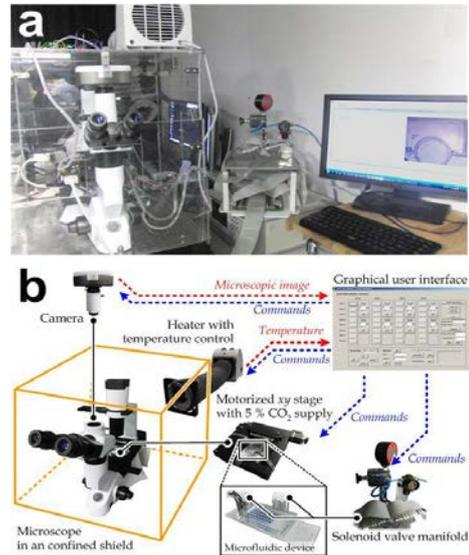
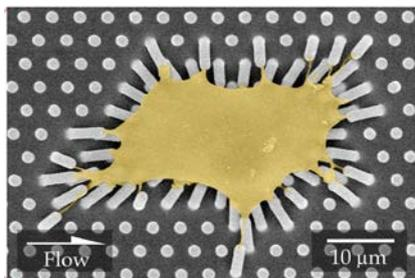
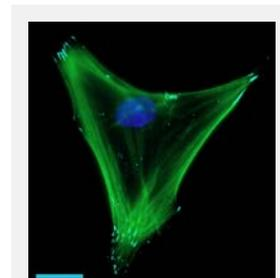

Figure 1. (a) Photograph and (b) schematics of the automated microscope system.
Figure 2. Cell traction on a micropost array.
Figure 3. A cell stained with focal adhesions, nucleus and actin.
Here we have planned to apply microfluidics to perform cell-related analysis. We will teach you on how to design and fabricate microfluidic devices; and you will have hands-on experience throughout the project. We will also teach you on how to culture cells and apply both convention and microfluidics-related cell analysis techniques for this project (such as **Fig. 2** and **Fig. 3** as shown below). We will introduce you to utilize a well-developed software package to automate and optimize the microfluidic operations (*e.g.* liquid manipulation) and further the cell analyses using our existing microscope system as shown in Fig. 1. While the hardware instrumentation and skill sets will be provided by the supervisor, the selected students will need to develop a function set to achieve particular microfluidic goals, such as (1) liquid delivery within microfluidic devices, (2) long-term cell culture in microfluidics, and (3) post-processing and quantification of the cells growing under different microenvironments. The integrative knowledge of various engineering aspects involved in this project can upgrade the student's insights to general engineering problems.